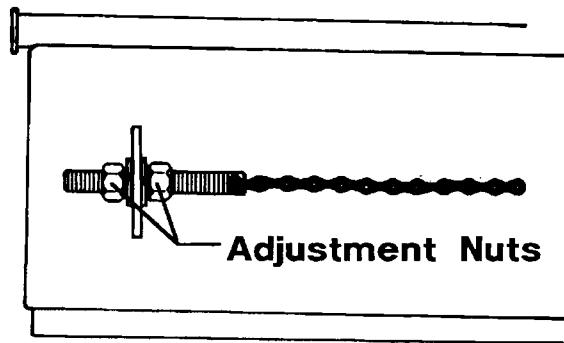

FIG 4-7
1. To adjust the power feed chain, move the carriage to the front end of the mill. The two locking nuts at the rear of the mill are used to tighten or loosen the power feed chain (See Figure 4-7). The chain should be adjusted so that the lower loop doesn't sag below the lower hardened steel track rod. Do not tighten it more than required to raise it 4" from the bottom of the lower track rod at its lowest point.